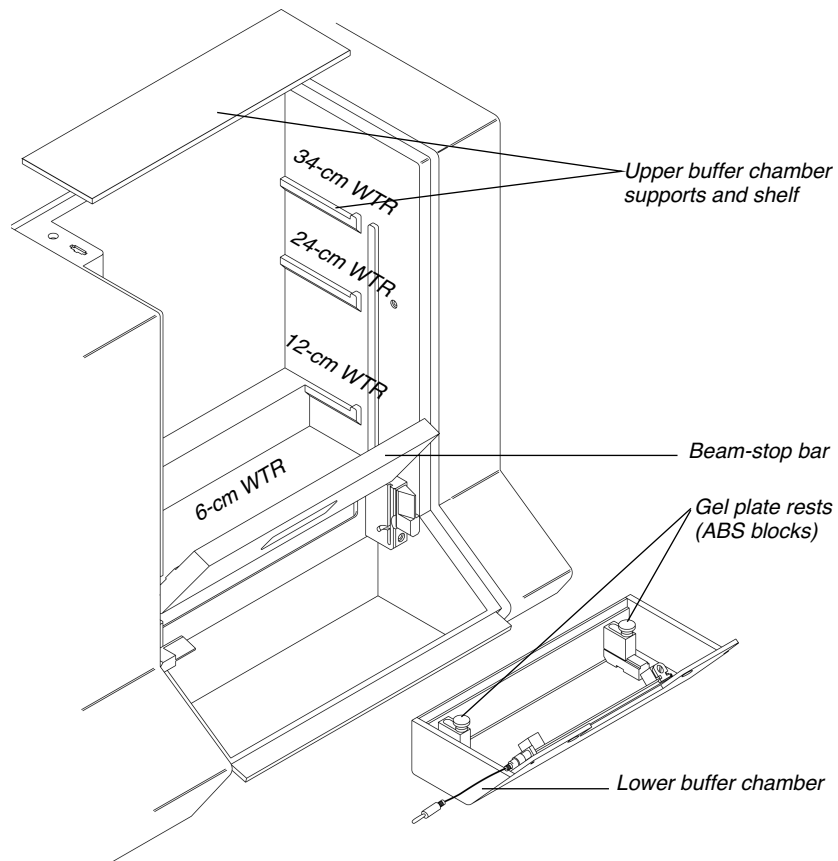

Figure 4-5. Model 373 (Stretch) Electrophoresis Chamber
- Stretch** 1. Open the door to the Model 373. The electrophoresis chamber looks like the one shown in Figure 4-5.
2. If you are running a 24- or 34-cm gel, place the white plastic upper buffer chamber shelf on the appropriate support on the inside of the electrophoresis chamber (see Figure 4-5).